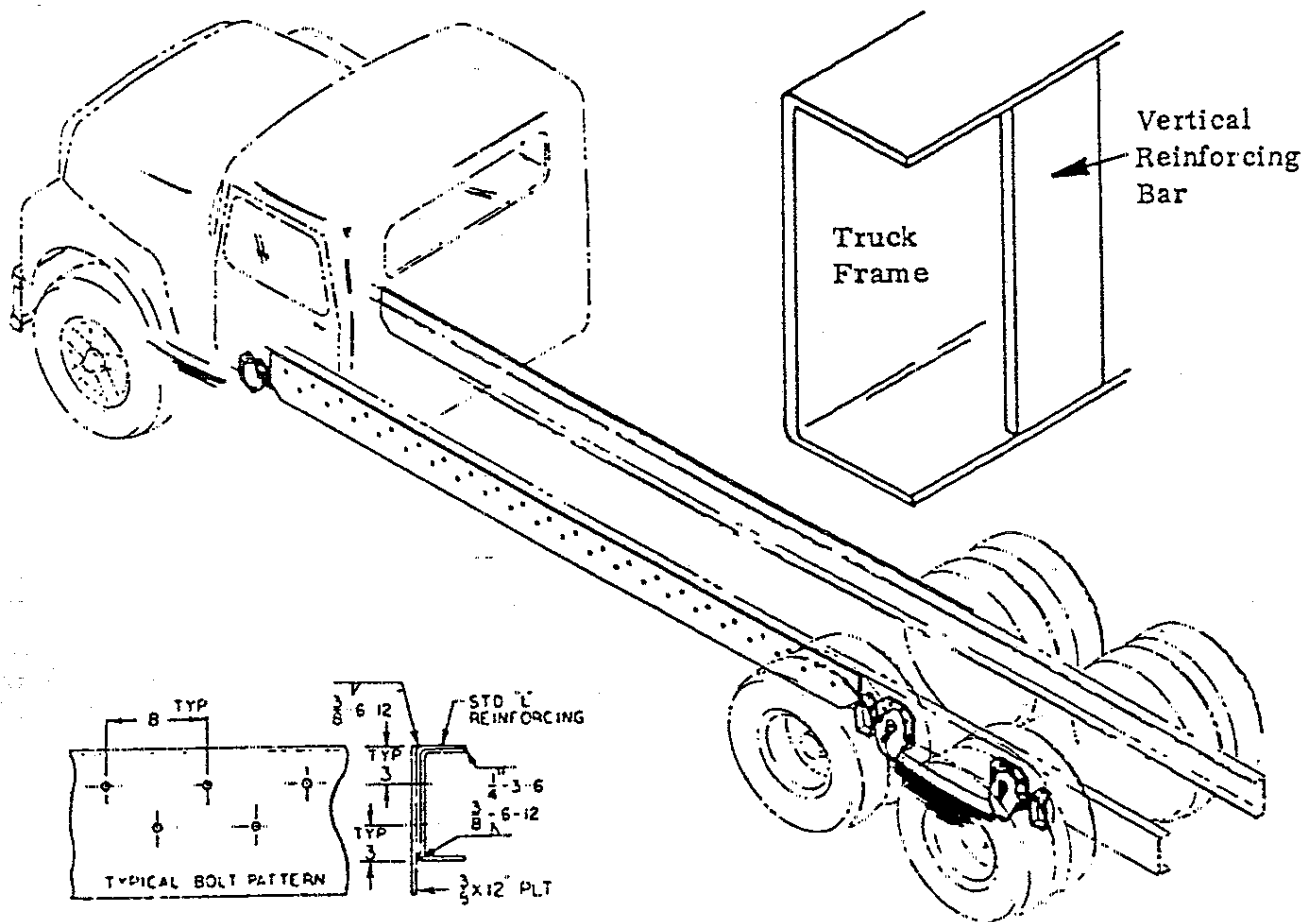

Figure C-1. Frame Reinforcement
4. Weld fishplate to "L" reinforcing angles (Figure C-1). Use a  $3/8$ " fillet weld for 6" (14.2 cm) and then skip 12" (28.4 cm).
Do not weld on high-tensile frames. The heat generated by welding can cause structural damage to the frame resulting in frame failure. Bolt fishplate to frame using pattern in Figure C-1. Use  $3/4$ -10 grade 6 or 8 bolts, hardened flat washers both sides and self-locking nuts. Torque to 280 ft. lbs. (38.72 kg-m) for grade 6 or 296 ft. lbs. (40.93 kg-m) for grade 8.